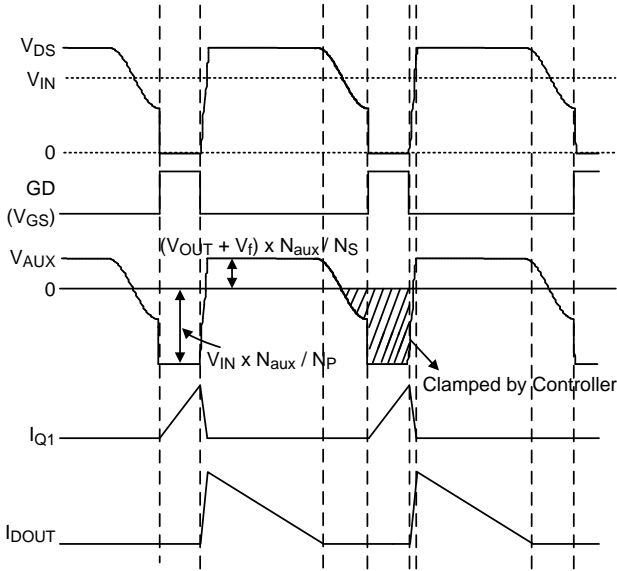

Figure 3. Key Waveforms of a Flyback Converter
The RT7339P needs no shunt regulator and opto-coupler at the secondary side to achieve the output voltage regulation. Figure 3 shows several key waveforms of a conventional flyback converter in Quasi-Resonant (QR) mode, in which V_{AUX} is the voltage on the auxiliary winding of the transformer.